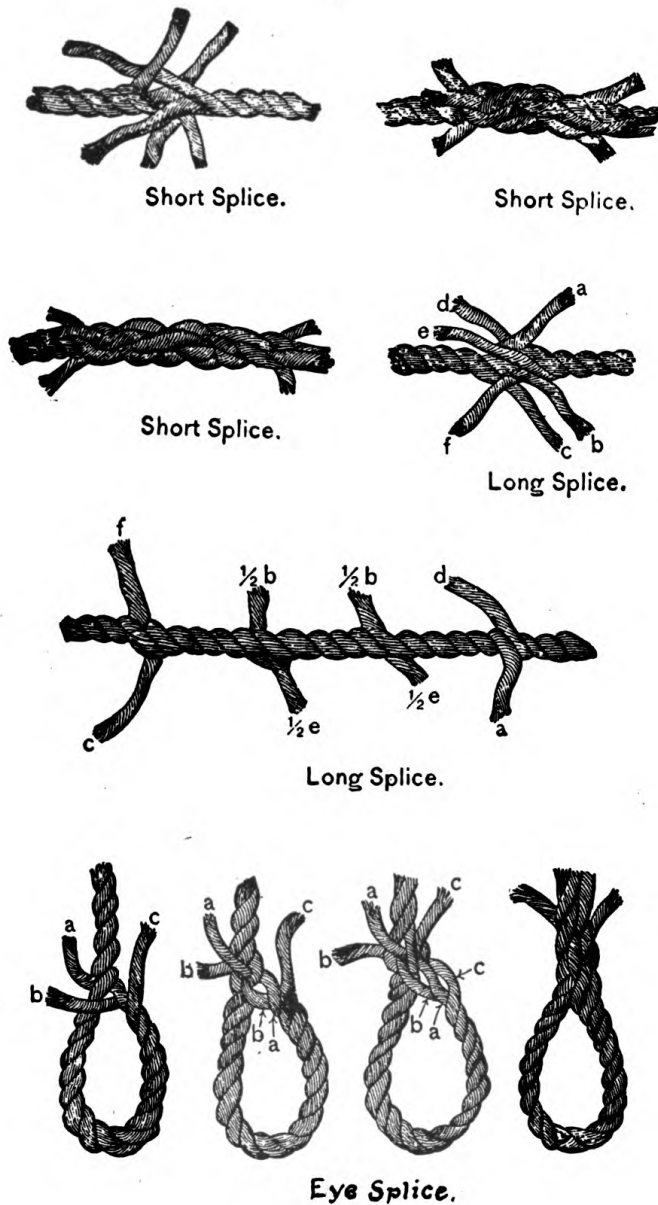

FIGURE 75.—Splices.
Q. How is a long splice made? *A.* Unlay the rope and bring together as for a short splice. Unlay to a convenient length a strand (*a*, fig. 75) of one rope, laying in its place the nearest strand (*d*) of the other rope. Repeat the operation in the opposite direction with two other strands (*e*) and (*f*). Lay half of one in place of the unlayed half of the other. Pass the tops through the rope. When the splice has been thoroughly stretched, trim off the ends of the strands.